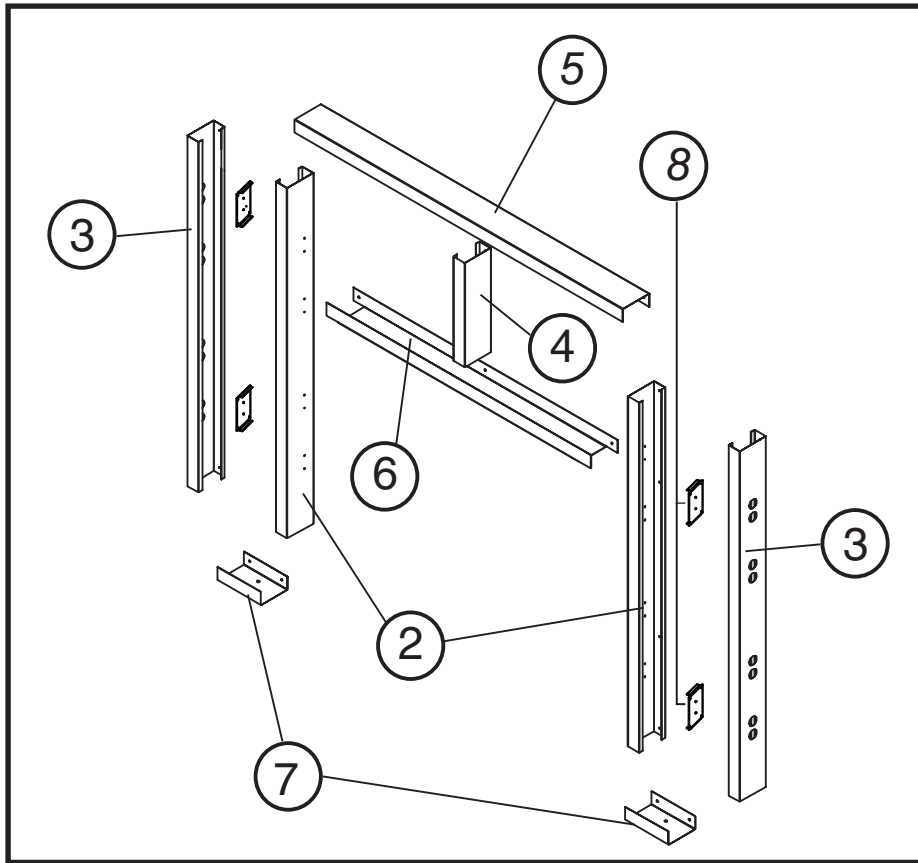
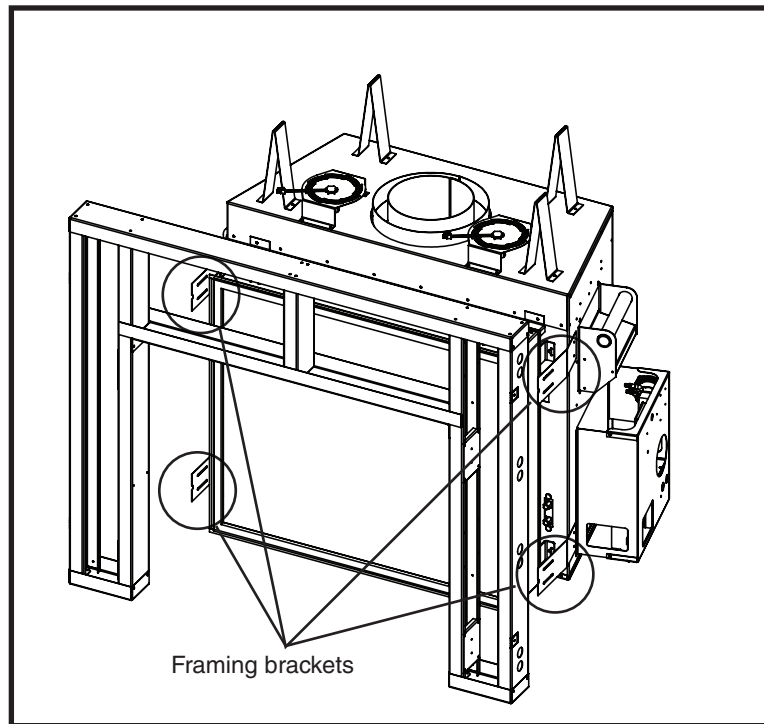
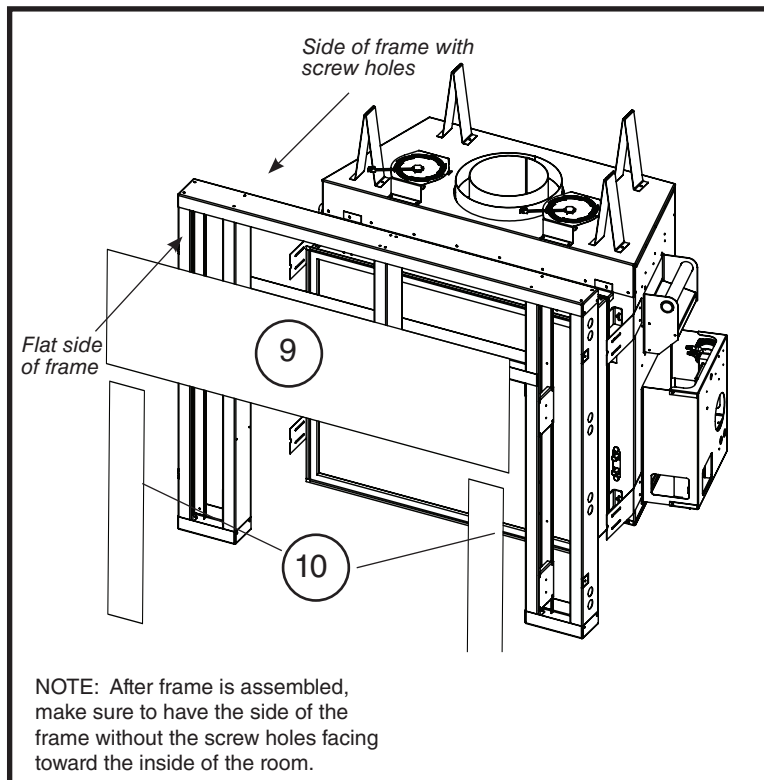

Figure 15: TC30 Framing kit parts.
Figure 16: TC30 Framing brackets.
Figure 17: Combustible boards.
1. Top Frame Assembly (Figure 15).
- Lay out side studs (2) and center stud (4) on a large flat surface.
- Using the screws provided (1), attach the header stud (5) and the plate stud (6) to the center stud (4).
2. Attach Side Studs (Figure 15).
- Fasten the Inner side studs (2) to the header (5) and plate (6) studs.
- Attach the outer side studs (3) to the top of the header stud (5)
- Fasten the outer side studs (3) at the bottom using the base plates (7).
- Align and secure the framing plates (8) to the frame so that they are in line with the framing brackets on the fireplace unit (Figure 16). Align the assembled frame to the unit framing brackets (Figure 16). Attach at the fastening points through the access holes in the outer side studs (3).
- Secure the frame assembly to existing framing through the stud header (5) and the stud plates (7).
- Use drywall screws to install the non-combustible board top (8) and sides (9) (Figure 17).